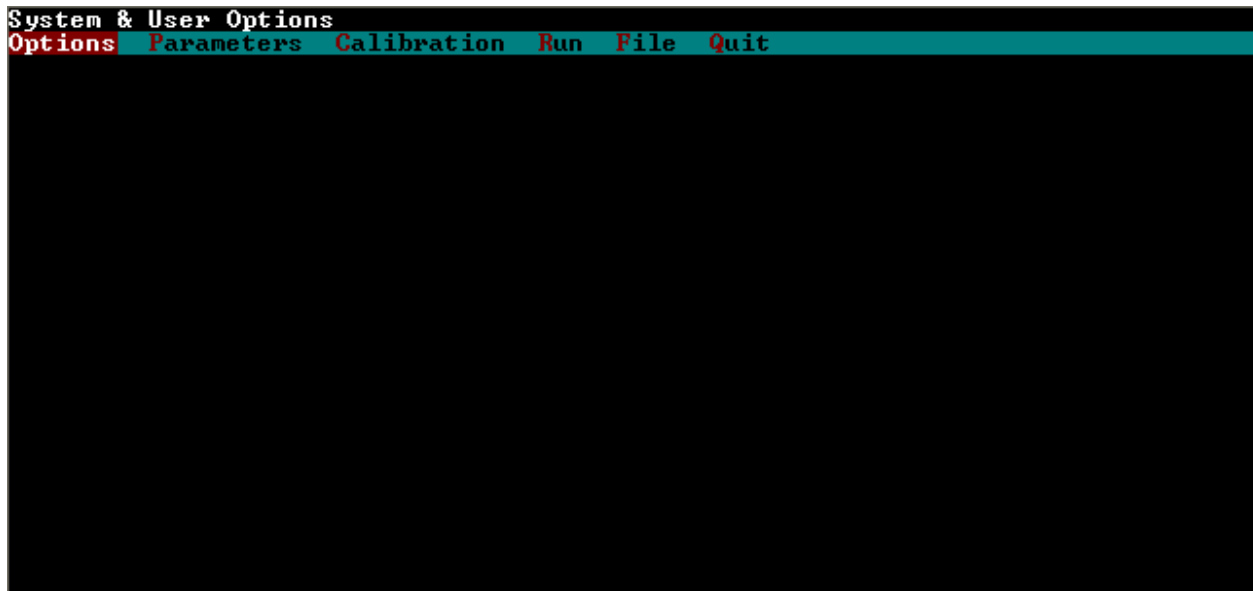

Figure 2-4. MDR Software Main Menu.
6. The main menu of the MDR program will show on the computer monitor (Figure 2-4).